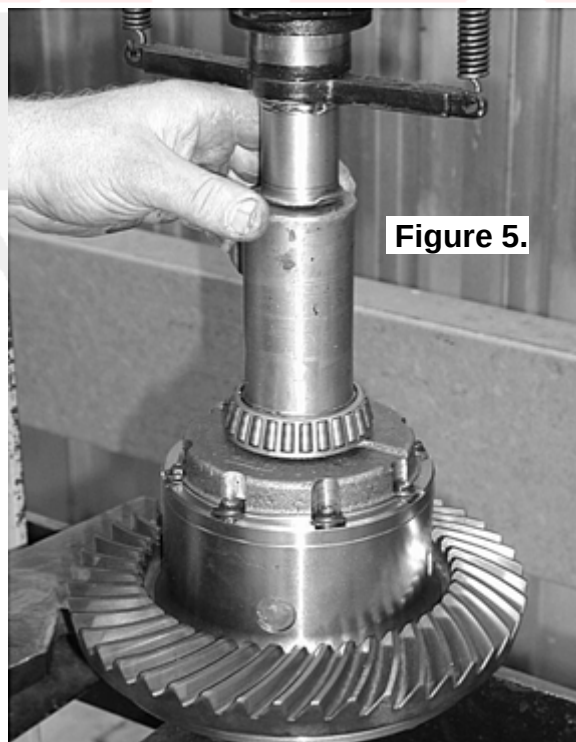

Figure 5.
- ☐ Apply a thin film of high pressure grease to the bearing journals of the *Air Locker*, then press the bearing cones onto the bearing journals as shown in figure 5.